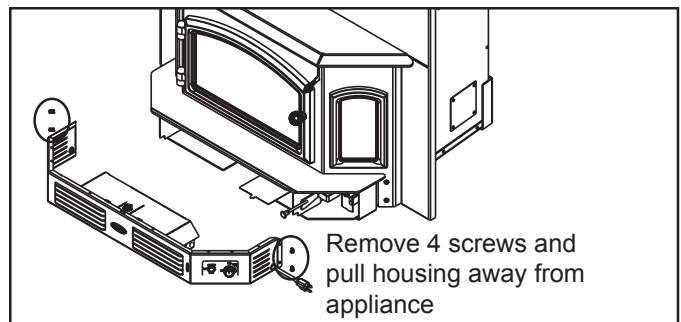

Figure 22.1
1. Using a 5/32 Allen wrench remove the 4 screws from the blower housing, 2 on each side, and pull the housing away from the appliance. **Figure 22.1.**